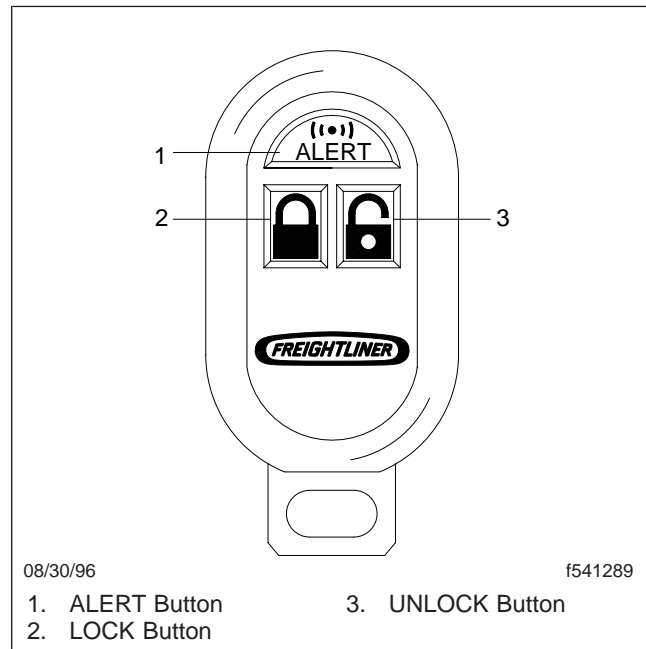

Fig. 3.9, Key Chain Fob (radio transmitter)
- A hand-held radio frequency transmitter that looks like a key chain fob. It acts as a remote control for locking the doors, unlocking the doors, or placing the system on alert. Each system allows as many as four different fobs. See Fig. 3.9.
3. On the fob, press down both the LOCK and UNLOCK buttons at the same time and hold them down for at least three seconds. See Fig. 3.9. If the code was learned, the system LED flashes and the doors unlock.